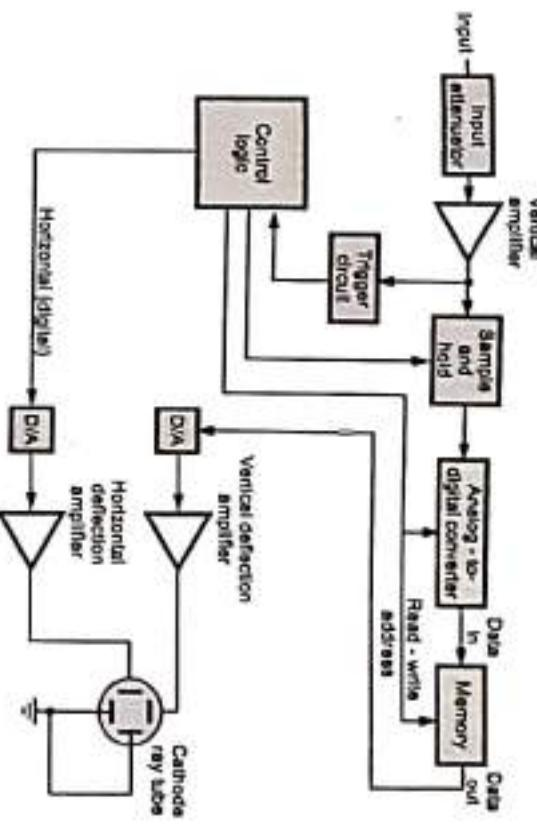

Fig. Q.5.1 Block diagram of digital storage oscilloscope
**Ans. :** • The block diagram of digital storage oscilloscope is shown in the Fig. Q.5.1.